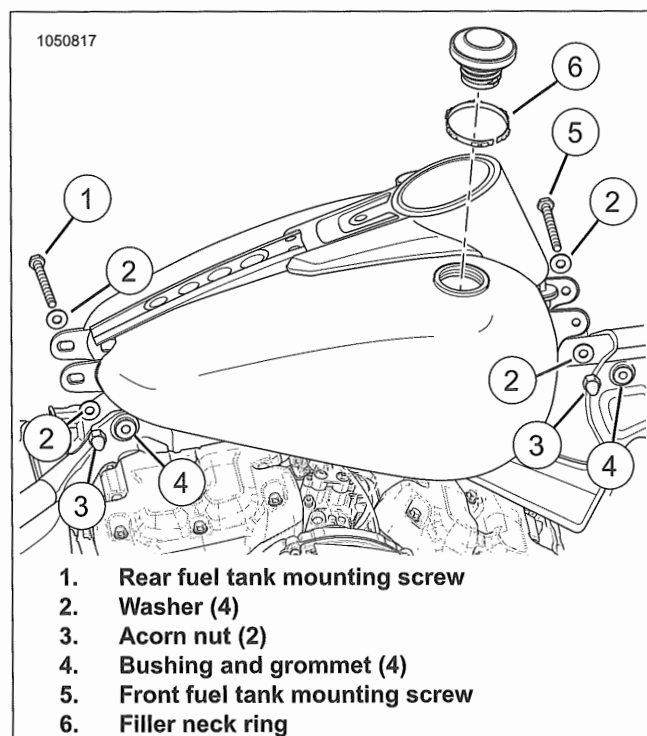

Figure 6-12. Fuel Tank
1. See Figure 6-12. Lift rear of fuel tank.
- a. Loosen front fuel tank mounting screw (5).
- b. Remove rear fuel tank mounting screw (1), washers (2), and acorn nut (3).
2. See Figure 6-12. Install rear fuel tank mounting screw (1), washers (2), and acorn nut (3). Tighten.